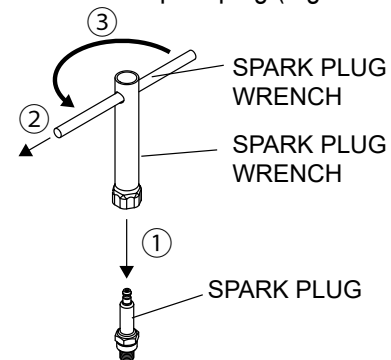

Figure 37. Spark Plug Removal
4. Insert the spark plug wrench so that the hexagonal section fits over the spark plug (Figure 37 ①).
5. Insert the bar handle through the hole on the upper part of the spark plug wrench (Figure 37 ②).
6. Turn the handle counterclockwise to remove the spark plug (Figure 37 ③).